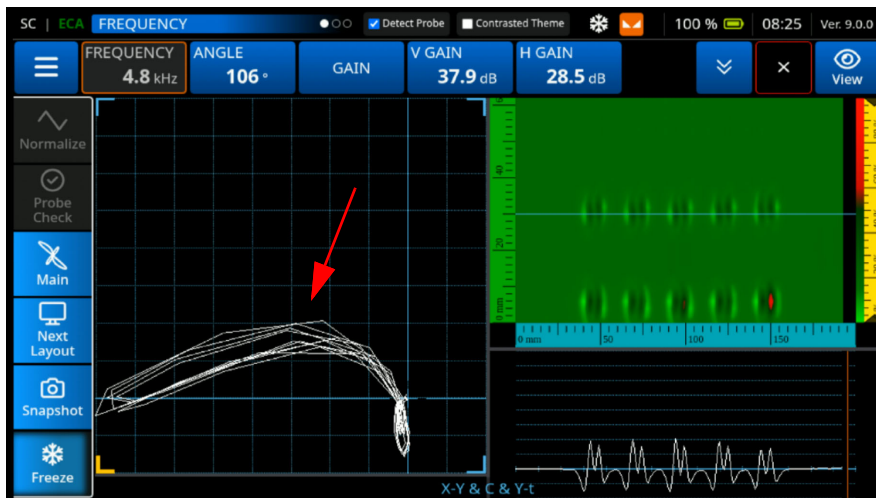

Figure 4-69 Adjust V Gain
- Using the **V Gain**, set the signal to 2 vertical divisions (See Figure 4-69 on page 169).